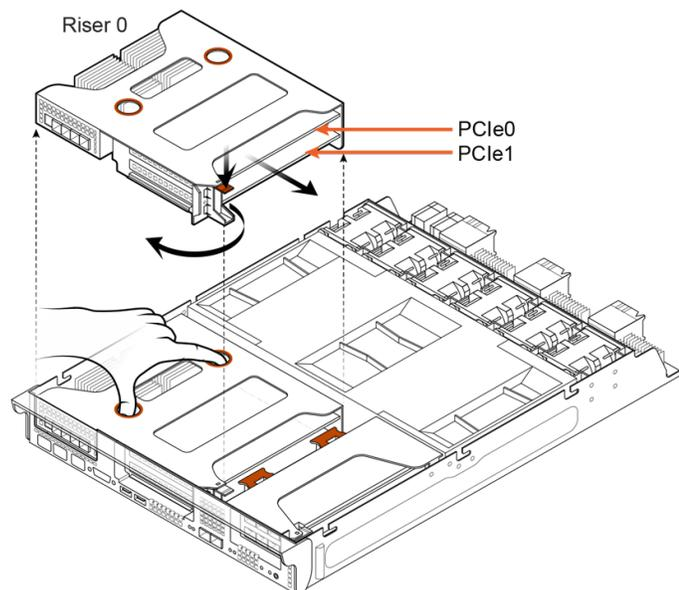

Figure 14-11. Removing Riser 0
1. Grip Riser 0 by the two finger holes as shown in Figure 14-11 and pull it straight up to remove it from the chassis.